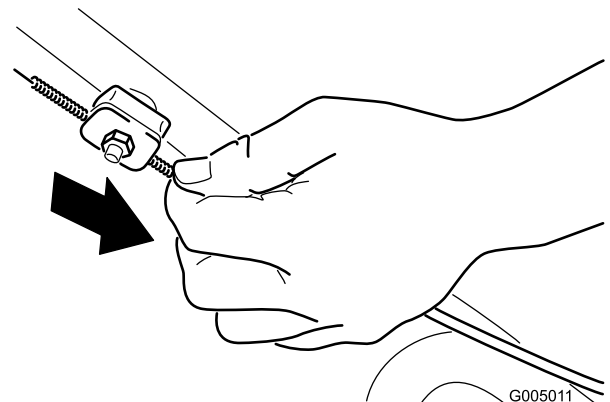

Figure 37
2. Pull down the cable jacket (toward the mower) until there is no slack in the cable (Figure 37).